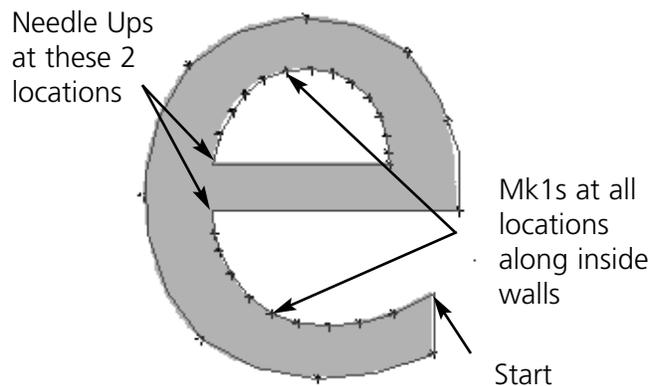

Figure 5-15
1. Enter Mk1s along the inside edge of the tail of the letter **e**. Generate these Mk1s at intervals that will allow the straight lines between them to stay closely aligned with the boundary of the wall (see Figure 5-15).
2. When you get to the crossbar put a Mk1 in the corner (see Figure 5-15).